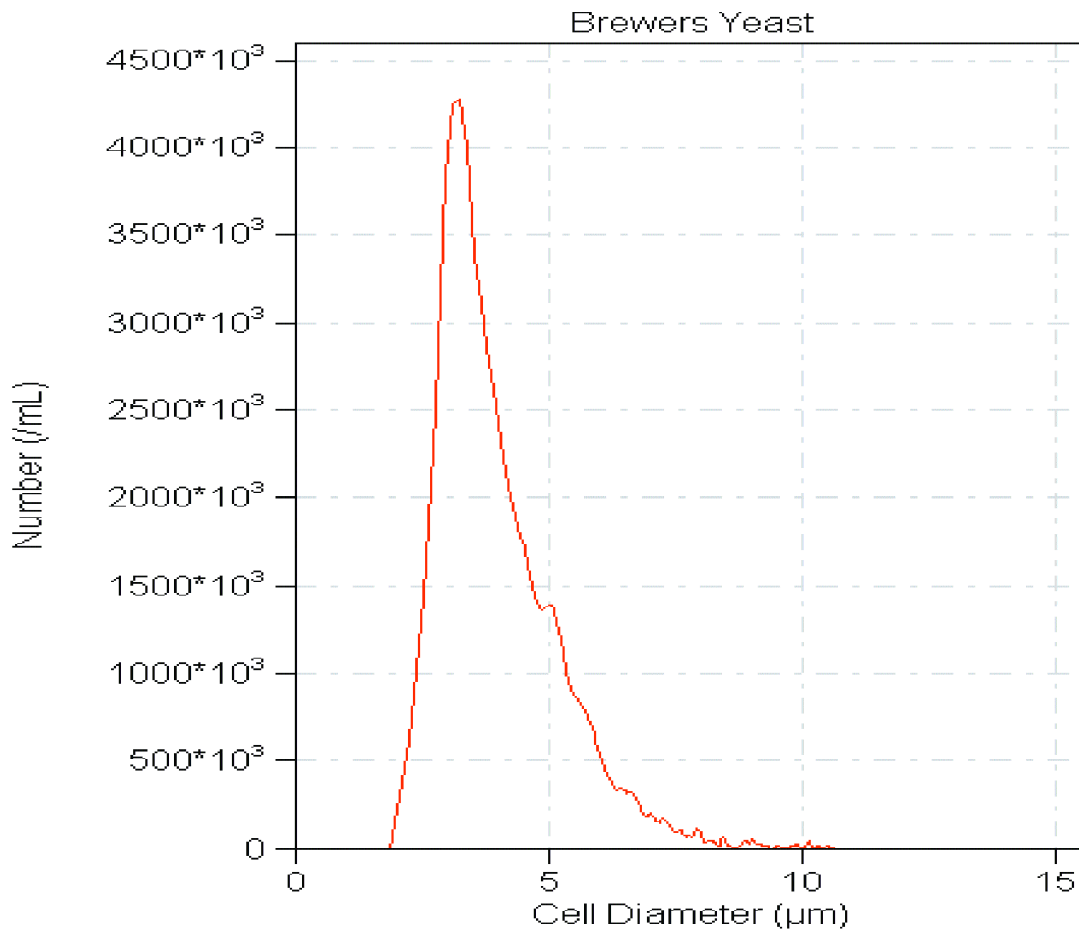

Figure 3: *Brewers Yeast, which was grown at 37°C 2 hours in distilled water. Average yeast cell size is 3.5 microns. Aggregates show as 7 microns or higher.*
- e. After run, acquire data with Accucomp™ software (Figure 3).